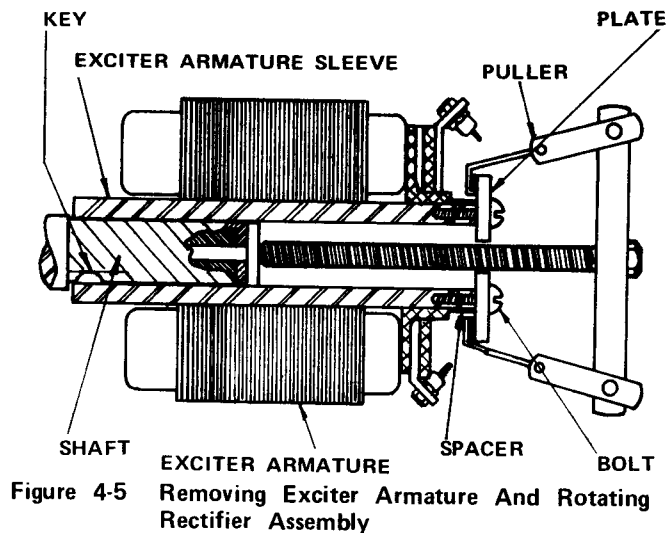

Figure 4-5
- c. Install a cap or plug to protect the shaft center. Utilizing the tapped holes in the end of sleeve, bolt to the end of the sleeve spacers and a metal plate. Refer to figure 4-5 for fixture setup.